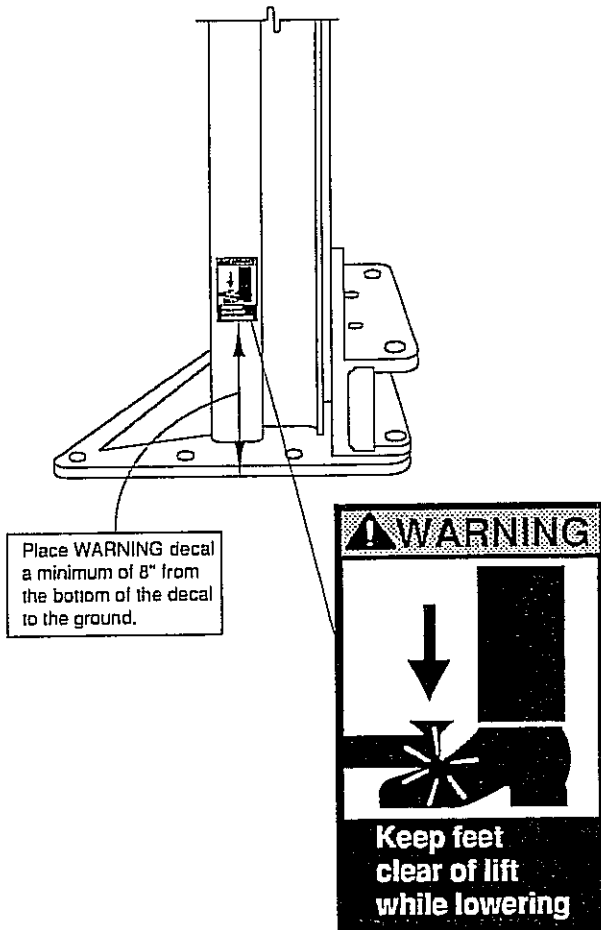

Fig. 24
22. Decal Location: Install enclosed pinch point decals. Place (1) decal on each column, Fig. 24.